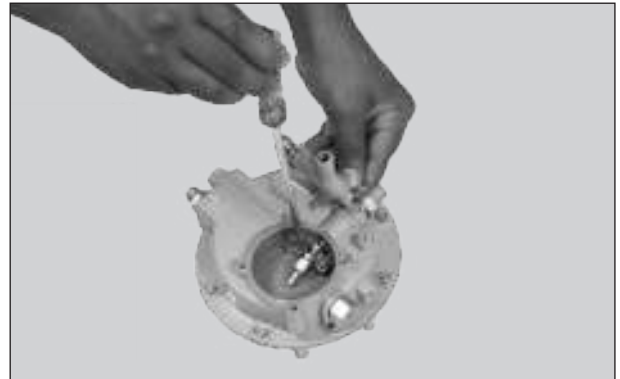

Fig. 8.29
- Loosen and remove 2nos.screw along with 2nos.punched washer from bonnet second stage. (Fig. 8.29)